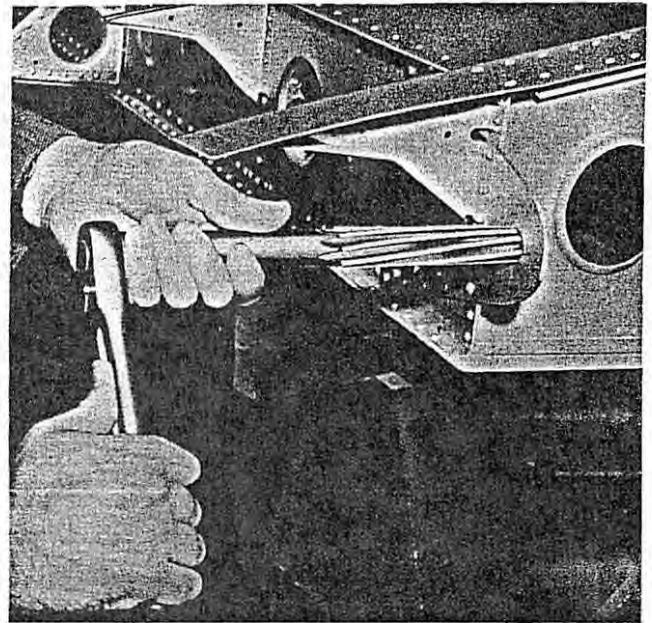

Figure 2-11. Reaming Aft Wing Spar
b. Before installing the wing, the rear spar bracket should be reamed to fit the rear spar bolts (figure 2-11). Use a 15/16-inch to 1-1/16-inch adjustable reamer (2, figure 2-12) and enlarge the hole just enough to start the straight reamer (1, figure 2-12). Care must be taken not to remove too much metal at one cutting and the reamer must be held steady during the operation, to prevent a rough finish in the hole. With the proper size hand reamer (1, figure 2-12) and taking care to guide it properly, finish reaming the hole so that hinge bolt will fit snugly. The reamer must be turned smoothly and steadily, and fed with an even pressure. If the surface is left rough, vibration will soon necessitate rework.
k. Change to the finishing reamer (3, figure 2-11) to give a smooth surface in the hole. This reamer is